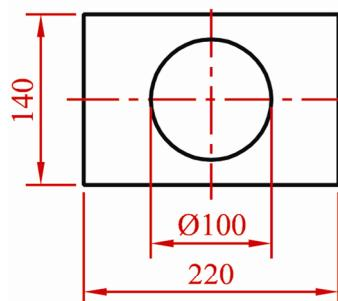

Fig. C-3(a)
- C-3. (a)** Fig. C-3(a) shows the projections of part of a transition piece from the ducting of a house's rain water collection system. A 3D graphic of the entire transition piece is also shown. The transition piece starts as a rectangle at one end and ends as a circle as shown.
Draw a one-piece surface development of the portion of the transition piece shown in Fig. C-3(a).
- (b)** A photograph of a hopper is shown. Fig. C-3(b) shows the plan and elevation of a part of the hopper.